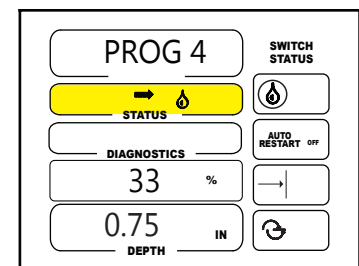

Figure 61-5
- b) Press **+** or **-** to change the value to 0.75". See figure 61-5.